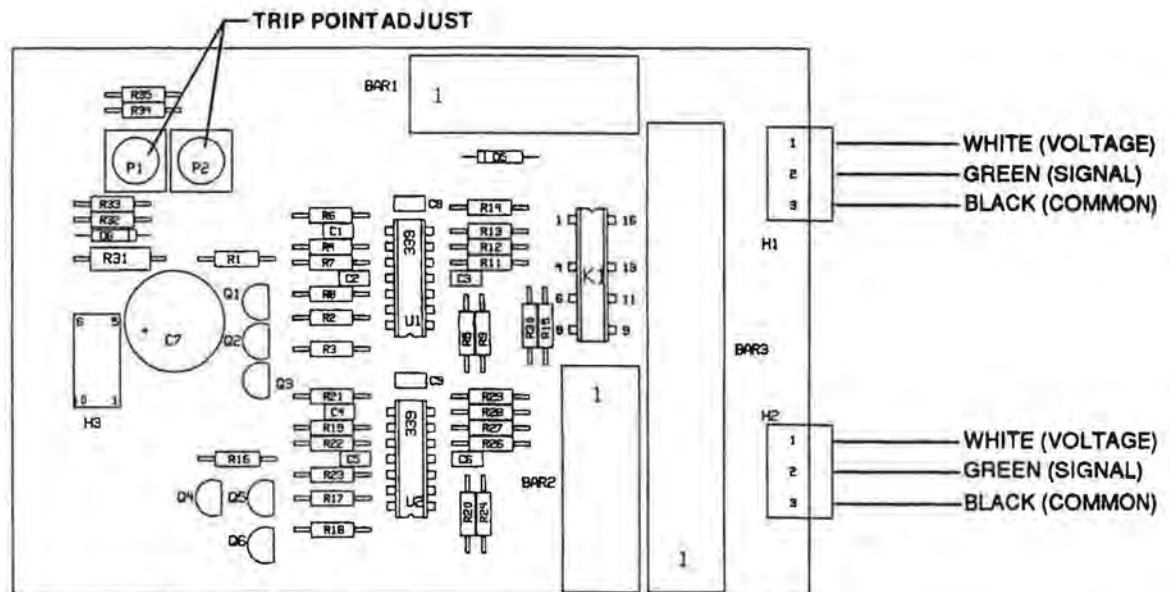

FIGURE 8: LVH VAPOR SENSOR INTERFACE BOARD P/N Q-439925
3.3.10.2 LVH VAPOR CIRCUIT (Refer to Figure 8)